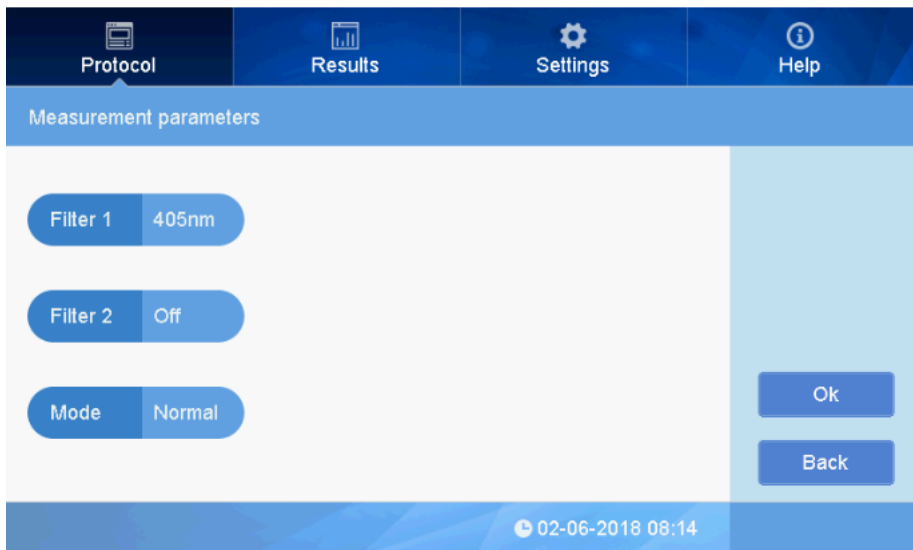

Fig 12
① On interface “Protocol”, click on “Measure” to set the parameters. See Fig 12.